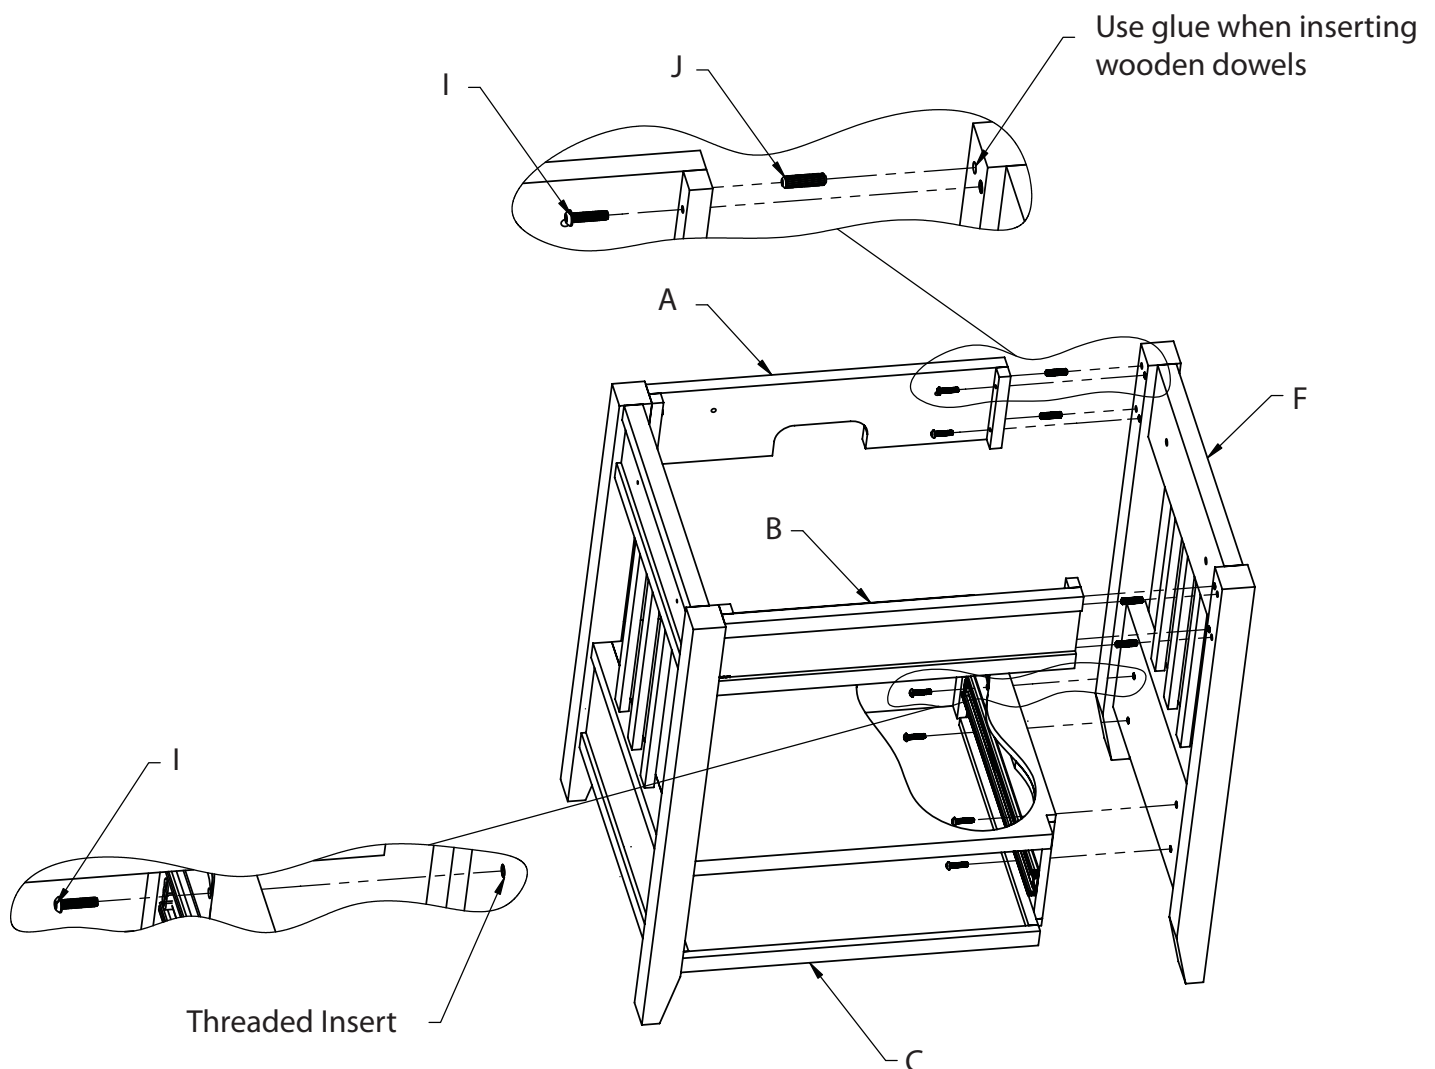

Figure 2
- o Attach Right Leg Assembly (F) to Drawer Unit (C) using Thick Machine Screws (I).
- o Attach Front and Back Rail (B, A) to Right Leg Assembly (F) using Thick Machine Screws (I) and Wooden Dowels (J).
- o Refer to Figure 2.